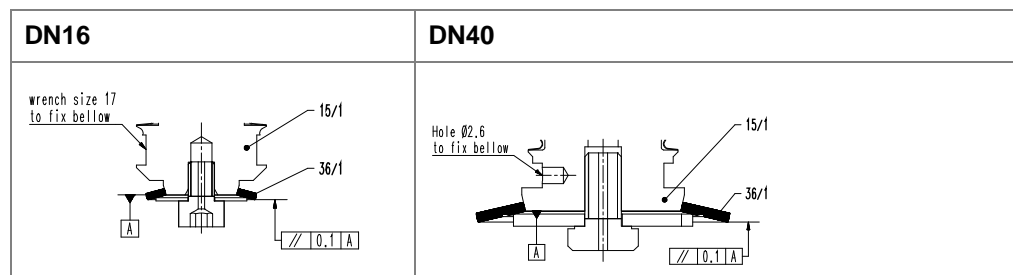

Figure 7-3
When loosening and tightening the screw (67) protect the bellows against torsion by hole or wrench size; see «Figure 7-3» on page 25.
6. Remove the screw (67).
7. Remove holding ring (62).
15. Protect bellows against torsion by hole or wrench size; see «Figure 7-3» and tighten screw (67) with the following torque: